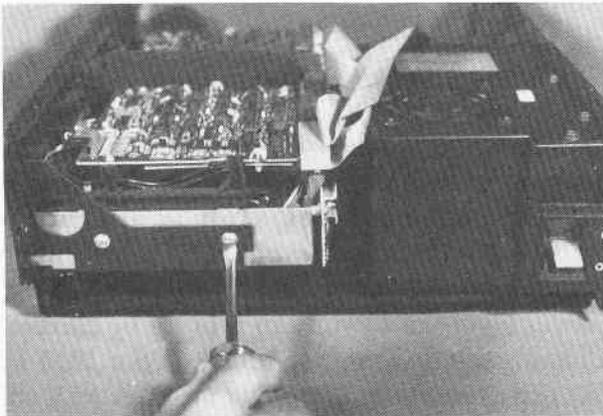

Fig. 4-4. Remove the two flathead screws holding the disk drive to the chassis.
4. Remove the two silver flathead screws holding the drive tight to the chassis, as shown in Fig. 4-4.
21. Replace the two silver flathead screws on the sides of the drive (refer to Fig. 4-4).
5. Remove the two silver flathead screws holding the drive tight, as shown in Fig. 4-4.